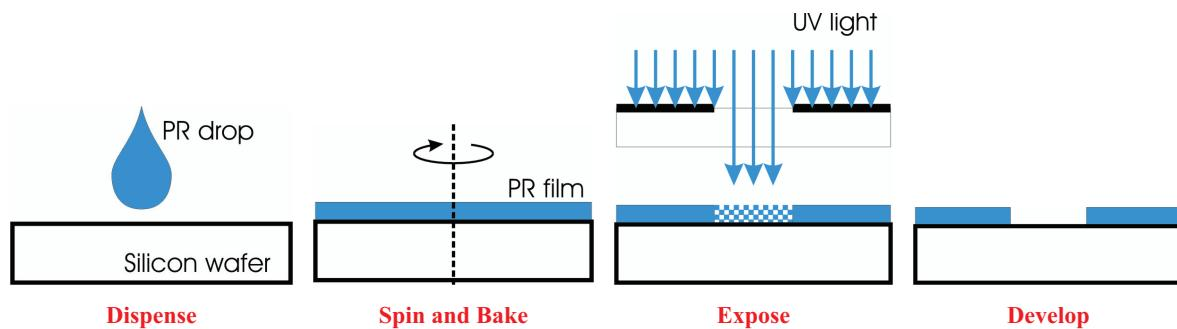

Figure TF7-3: Basic lithography steps.
At its heart, lithography is simply a stencil process. In an old-fashioned stencil process, when a plastic sheet with cut-out letters or numbers is laid on a flat surface and painted, the cutout areas will be painted and the rest will be masked. Once the stencil is removed, the design left behind consists of only the painted areas with clean edges and a uniform surface. The total surface area of the IC depends on the number and complexity of the circuit elements on the IC, and on the minimum feature size, which is 10 nm (10^{-8} m) today. With that in mind, consider **Fig. TF7-3**. Given a flat wafer, we first apply a thin coating of liquid polymer known as **photoresist** (PR). This layer usually is several hundred nanometers thick and is applied by placing a drop in the center of the wafer and then spinning the wafer very fast (1000 to